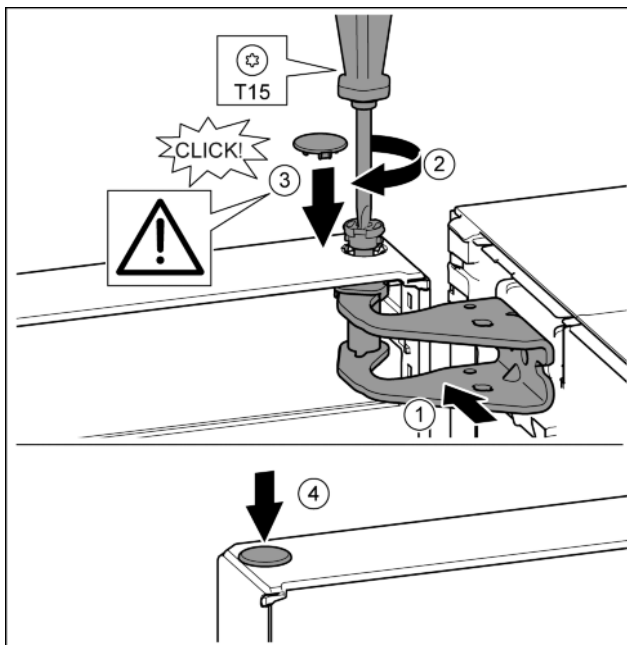

Fig. 21
- Align the top of the door with opening in the bearing bracket. Fig. 21 (1)
- Insert the bolt and tighten with a T15 screwdriver. Fig. 21 (2)
- Fit the protective cover to protect the door: Insert the protective cover and check that it is attached to the door. If not, insert the bolt fully. Fig. 21 (3)
- Insert the plugs. Fig. 21 (4)